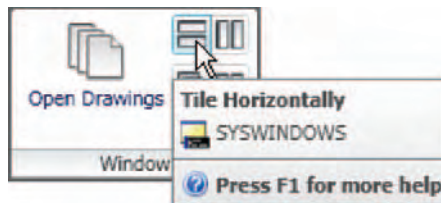
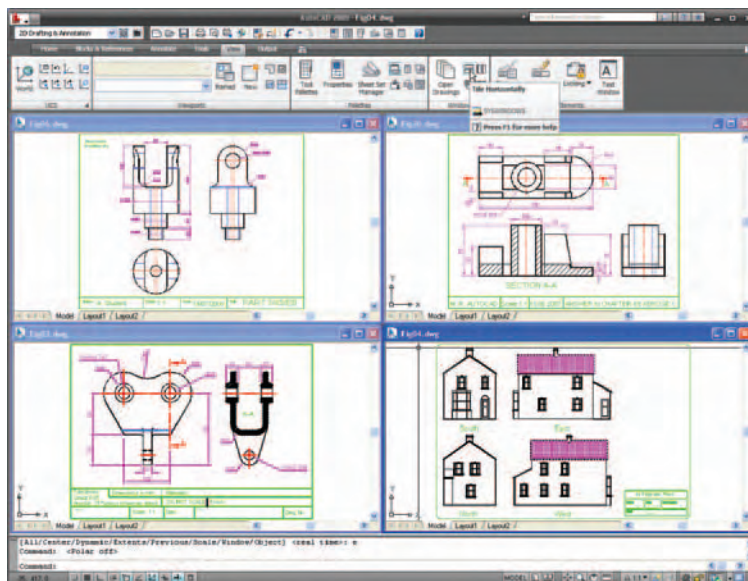

Fig. 10.24 Selecting **Tile Horizontally** from the **View/Window** panel
Fig. 10.25 Four drawings in the **Multiple Document Environment**
2. In the **View/Window** panel, *click Tile Horizontally* (Fig. 10.24). The four drawings rearrange as shown in Fig. 10.25.